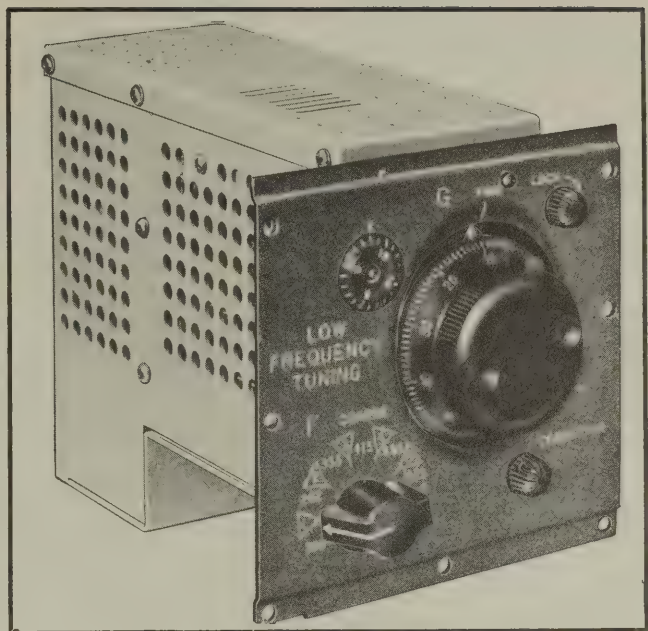

Figure 1-8—Oscillator O-16/ART-13
(2) **OSCILLATOR O-16/ART-13.** Figure 1-8 covers the frequency range 200 to 1500 kilocycles. Calibration table 5-3 is for this oscillator with 8Q-2 and calibration table 5-6 is for this oscillator with 8Q-1. The tables in ATC or ATC-1 calibration books, editions 1 through 4 are for this oscillator with 8Q-1. Refer to paragraph 6A, section V for calibration instructions for this oscillator when the MCW-CFI 8Q-2 unit is used.